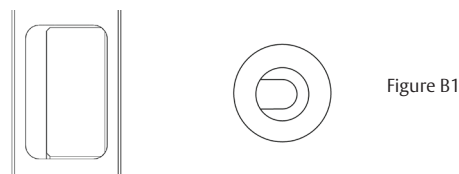

Figure B1
- There are four Door Bushings ⑩ in each package.
- Below are the different configurations of the Door Bushings ⑩.
- Choose the Door Bushings ⑩ configuration that best fits your Panic Device Assembly Installation and centers the actuator post in the tube opening.
- Each Door Bushing ⑩ contains 6 ribs.
- You can adjust the C Bushing ②③ by rotating it 360 degrees.
- Make the necessary adjustment to get equal spacing between the sides of the Actuator Post Assembly ①⑦ and the tube opening.
- If there is friction against the right side, adjust the opening of the C Bushing ②③ to the right. Refer to Figure B1.